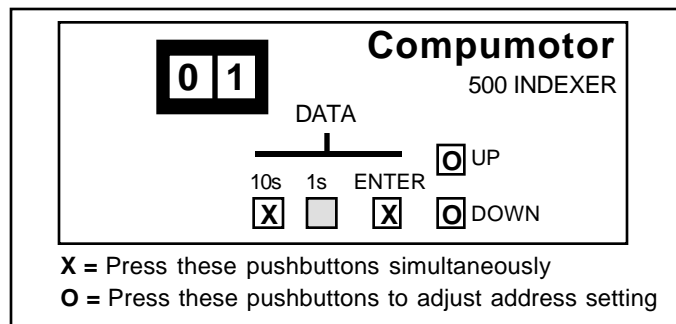

Figure 2-8. Changing the Device Address
- ① Press and hold the **10s** and **ENTER** pushbuttons.
- ② While holding the two pushbuttons, press the **DOWN** or **UP** pushbutton until the desired address is shown (see Figure 2-8).